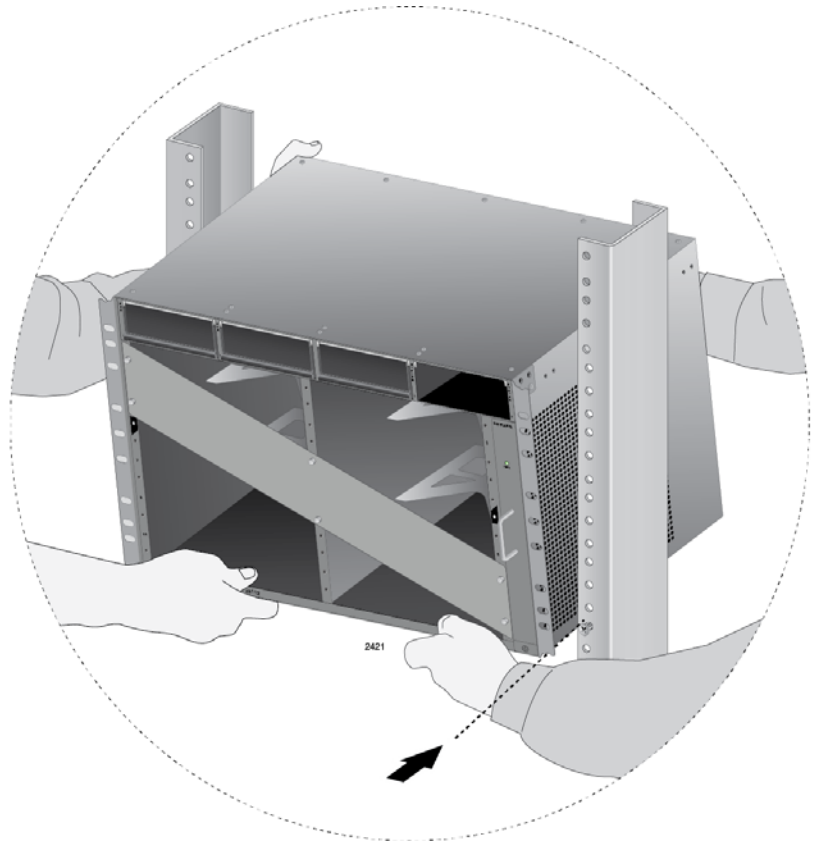

Figure 37. Lifting the AT-SBx8112 Chassis into the Equipment Rack
2. Do not mount any other equipment within 152.4 mm (6") above this space during installation. This additional vertical space is temporary and allows you enough room to lift and tilt the chassis into its position in the equipment rack without hitting other equipment, as shown in Figure 37 on page 101. You may use this additional space for other network equipment after the chassis is installed.
1. While facing the front of the chassis, tilt the top of the chassis toward you, as shown in Figure 37 on page 101.
2. Lift the AT-SBx8112 Chassis into the equipment rack and set the bottom of the equipment rack brackets firmly on the two equipment rack screws you installed in “Preparing the Equipment Rack” on page 93, as shown in Figure 37.